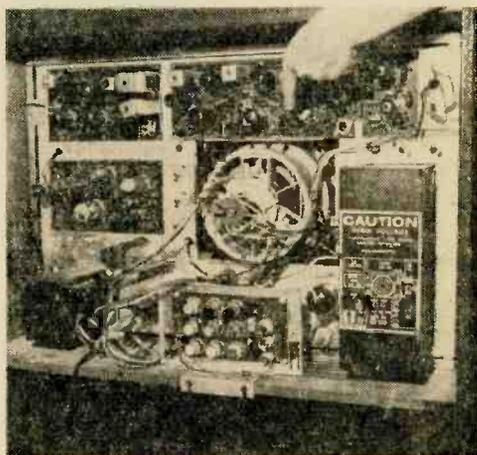

Fig. 4. Most color circuits are located on the "chroma" board. In typical set above, finger points to chroma board that occupies most of top half of chassis.
**Troublesome Bottles.** Tubes are usually the major cause of trouble so check them first. Since the no-color problem is almost always in receiver circuitry that handles only color, you won't have to look very far. It is common practice for the manufacturer to localize all chroma stages in one area. In many cases it is a separate printed circuit board, as in Fig. 4. And usually the function of one or more chroma stages is contained within a multi-purpose tube. There might be eight or nine separate stages in the schematic of the chroma section, but often they add up to approximately five tubes. Some typical combinations in a single tube